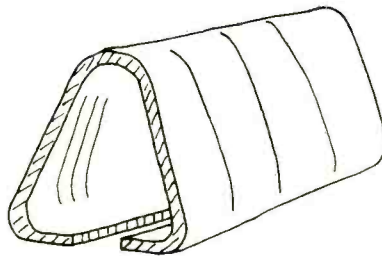

FIG. 4
5. Sinks for DIP IC's can be quickly made as shown in Fig. 4. Use sheet